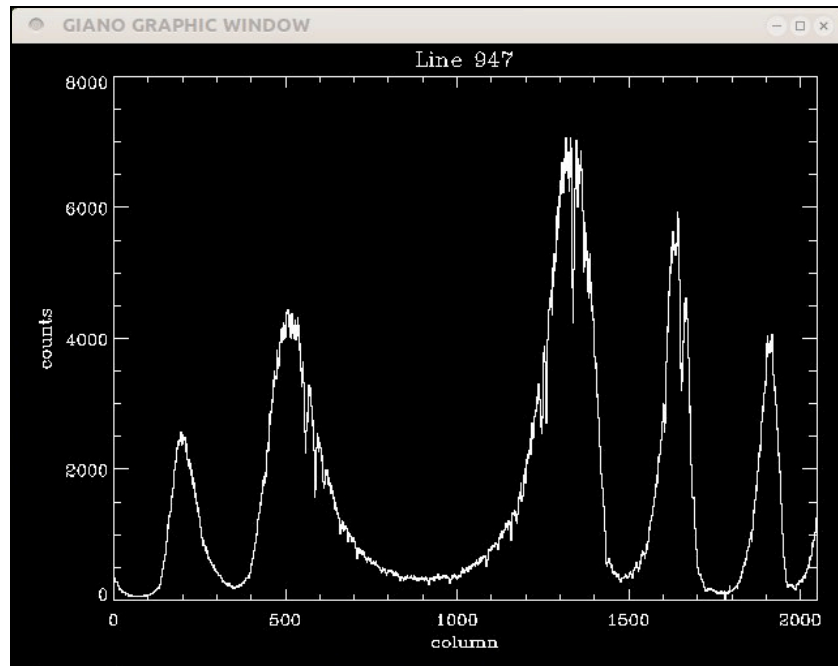

Figure 16. Line plot
**l** : The image line corresponding to the cursor position will be plotted in the Graphic Window. The plotted line will be shown on the top of the graph (Figure 16).